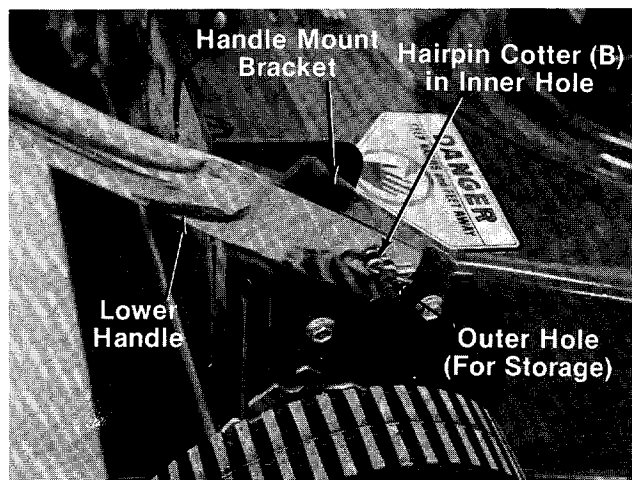

FIGURE 2.
- A (1) Rope Guide Bolt
- B (2) Hairpin Cotter
- C (2) Lock Washers 5/16" I.D.
- D (2) Hex Nuts 5/16-18 Thread
- E (1) Curved Head Carriage Bolt
- F (2) Cable Ties
- G (1) Ferrule
- H (1) Locking Ring
3. Attach the lower handle by placing the bottom holes in the lower handle over the weld pins on the handle mount brackets. Make certain the instruction label on the lower handle can be read from the operating position. Secure with hairpin cotters (B) in inner holes on weld pins. See figure 2.